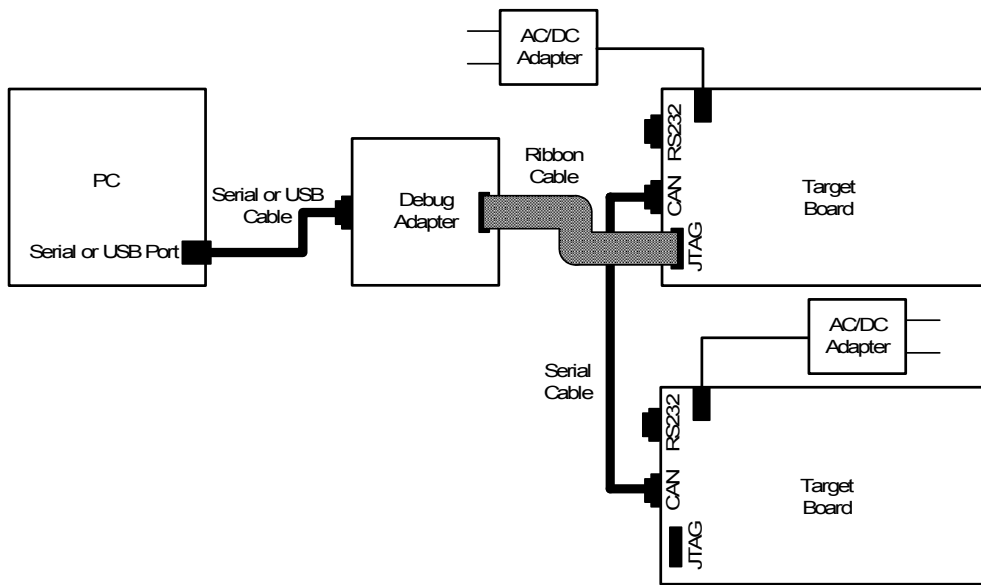
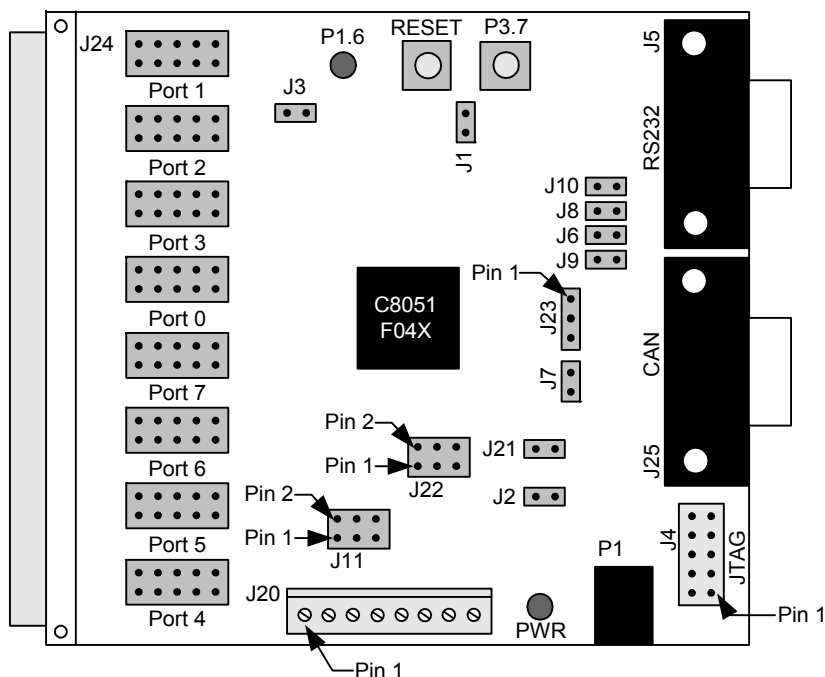

Figure 3. CAN Application Hardware Setup
Figure 4. C8051F040 Target Board
1. Connect the target boards together at the CAN DB-9 connectors using the CAN cable provided in the development kit, as shown in Figure 3 on page 6. The correct cable has a male connector on both ends. Take care not to connect the CAN cable to the RS232 DB-9 connector. See Figure 4 on page 7 for the location of the CAN DB-9 connector.
The C8051F04x Development Kit includes a target board with a C8051F040 device pre-installed for evaluation and preliminary software development. Numerous input/output (I/O) connections are provided to facilitate prototyping using the target board. Refer to Figure 4 for the locations of the various I/O connectors.